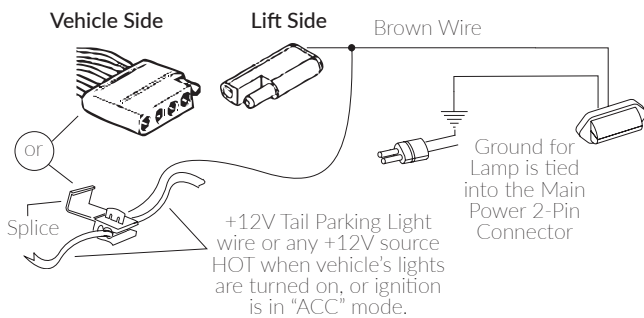

Figure 4-8
**NOTE:** The lift includes a standard two-contact trailer connector. Use this connector for the license plate lamp. If your vehicle is not equipped with the proper connector, use the brown wire to make a wire splice and get the same result. *See Figure 4-8.*